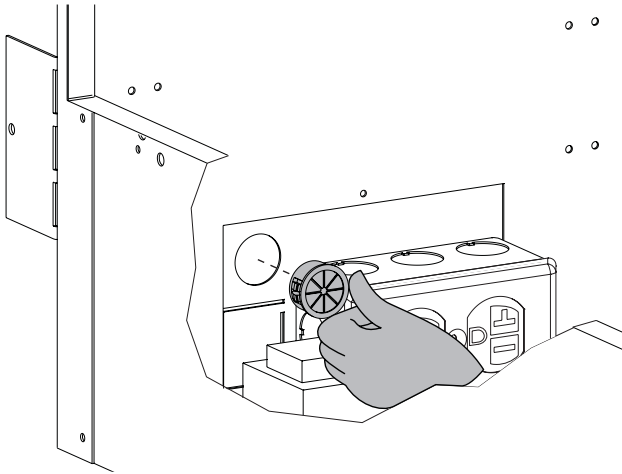
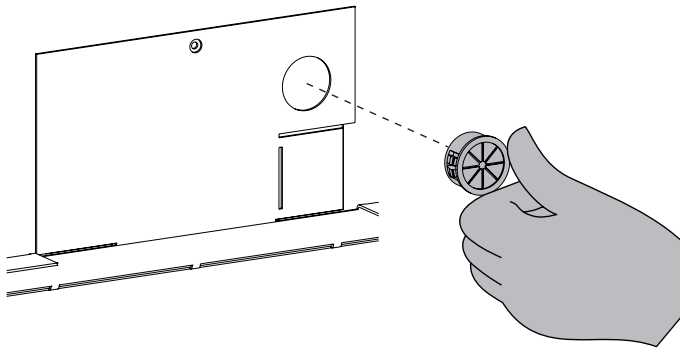

Figure 36
Figure 37
14. Install the provided plastic bushing in the opening where the wires exit the fireplace. See Figure 36 (left side), or Figure 37 (right side).